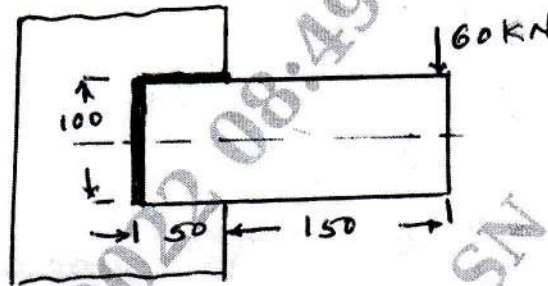

Fig.Q7(b)
- 5 a. A flat key 14 mm wide, 14 mm thick and 75 mm long is required to transmit 1200 Nm torque from a 50 mm diameter solid shaft. Determine whether the length is sufficient or not if the permissible shear stress and crushing stress are limited to  $56 \text{ N/mm}^2$  and  $168 \text{ N/mm}^2$ , respectively. (05 Marks)
- b. Determine the size of weld required for an eccentrically loaded weld as shown in Fig.Q7(b), the allowable stress in the weld is  $75 \text{ N/mm}^2$ .